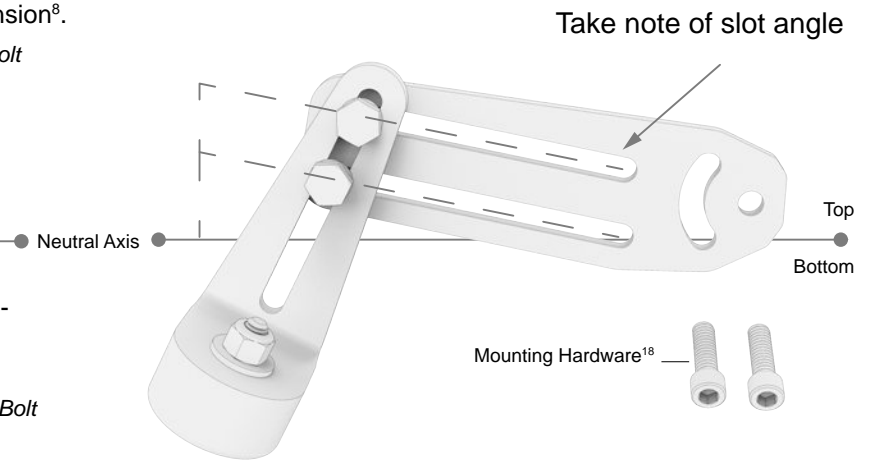
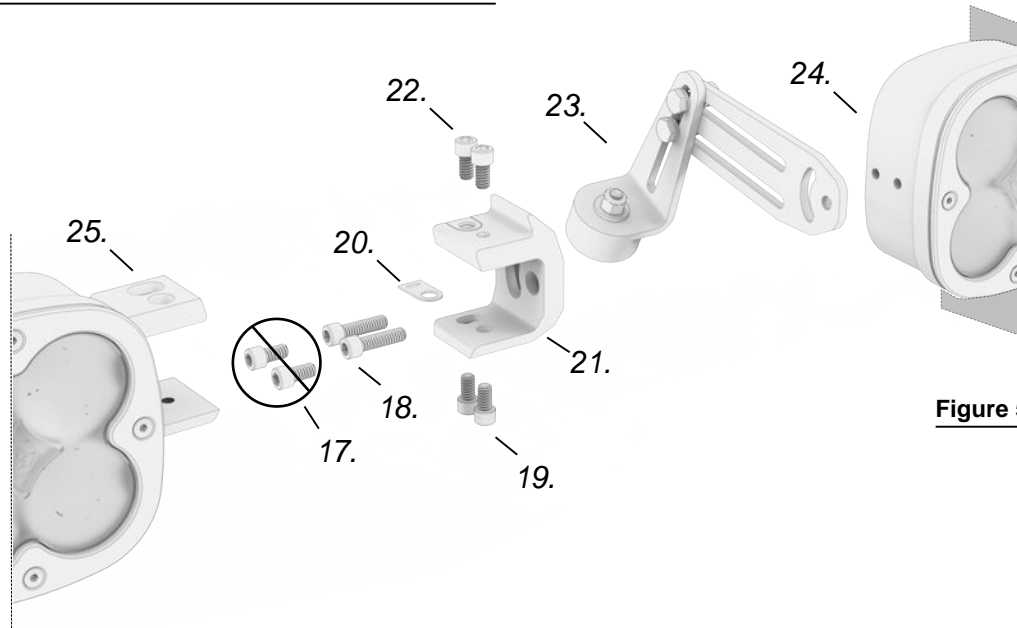
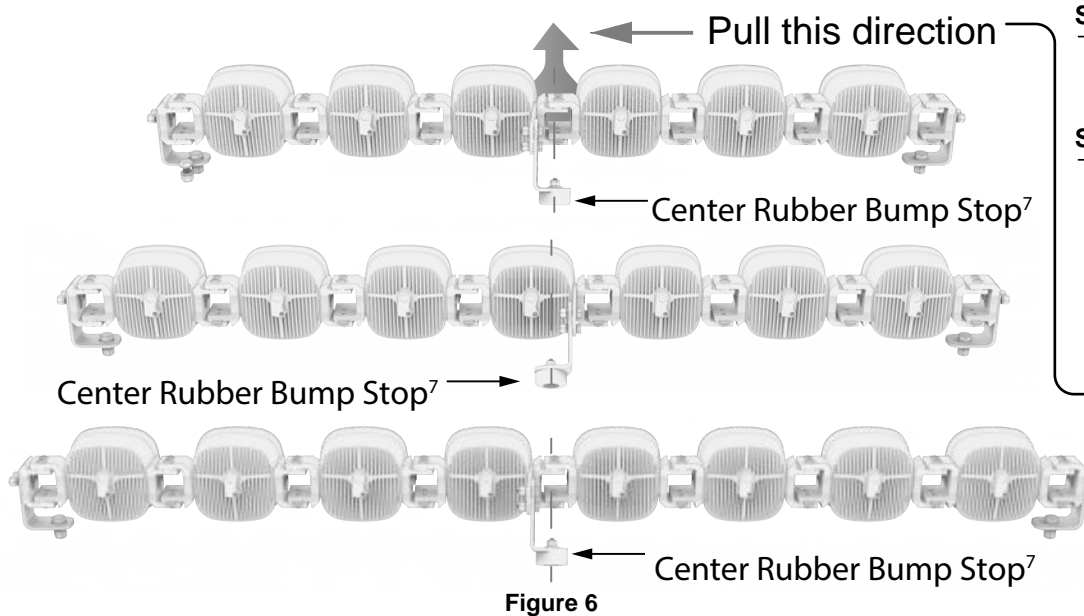

Figure 4
Figure 5
Figure 6
Using a 7/16" socket and wrench, assemble items (5 - 10). Refer to Figure 4 and Figure 6 (on next page) for the location and orientation of the Pre-Load Base¹⁴ and Extension⁸.
Step 5. Refer to Figure 6 in order to locate which Socket Head Cap Screws^(19, 22) to unscrew.
For the number of lights the XL Linkable has, locate that diagram in Figure 6. Unscrew the top and bottom Socket Head Cap Screws to the right of the Pre-Load Mechanism that secure the XL Links together. Separate as shown in Figure 5.
Step 6. Replace the 1/4"-20 x 7/16" Cap Screw¹⁷ with the included 1/4"-20 x 7/8" Cap Screw¹⁸. Assemble items (18-25) in the order shown in Figure 5.
Step 7. Check to make sure the Rubber Bump Stop⁷ is centered on the XL Linkable as shown in Figure 6.
Pull the XL Linkable away from the vehicle (indicated by shaded arrow in Figure 6), and then tighten the Hardware¹¹ with the Rubber Bump Stop⁷ firmly resting on the included 3M[®] Clear Bra²⁶, perpendicular (Figure 7), on a sturdy surface.